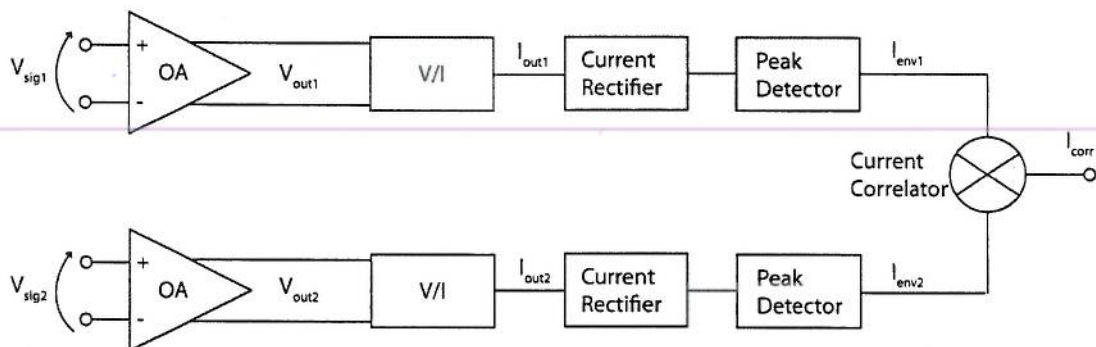

Figure 6.1
d) The system in Figure 6.1 uses a V/I converter with improved linearity over a conventional differential pair. Sketch suitable schematics for the V/I converter and the current correlator used in this system.
6. Figure 6.1 shows a biomedical system used to measure the similarity between two EEG channels by recording action potentials from the human brain. The front end consists of a differential operational amplifier (OA) connected to a voltage-to-current (V/I) converter. This then connects to a current rectifier followed by a peak detector that detects the envelope of the converted current I_{out1} . The similarity between the envelopes of the two channels, I_{env1} and I_{env2} , is detected using a current mode correlator to derive an output signal I_{corr} .